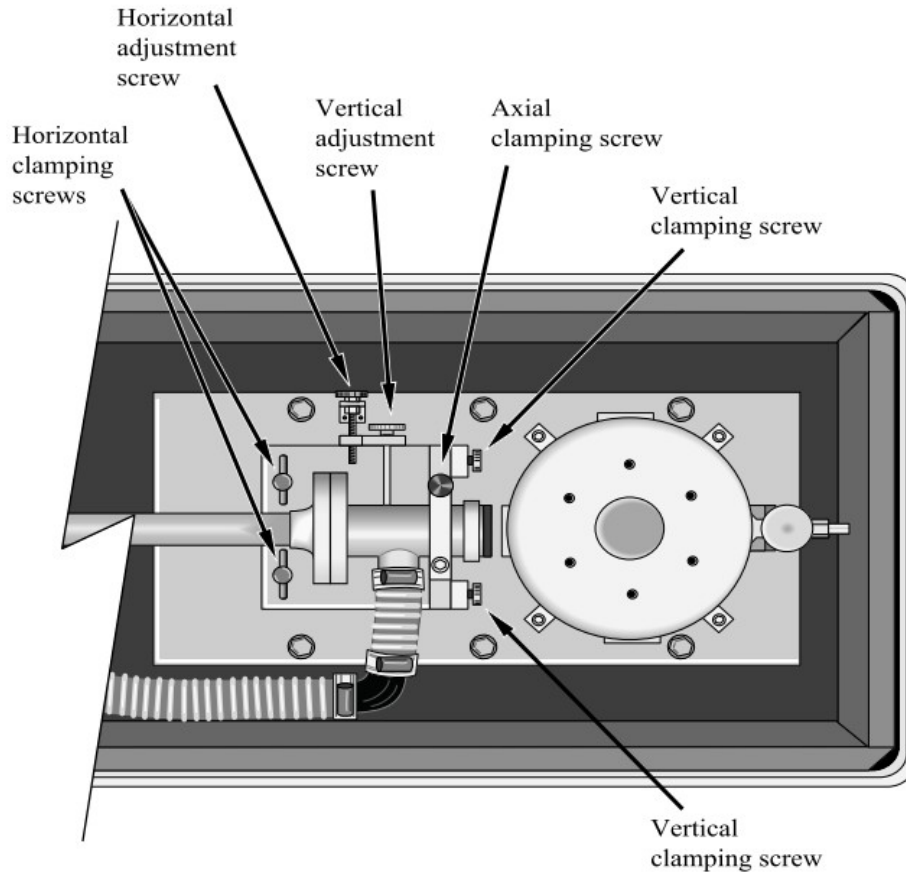

FIGURE B-3. Alignment hardware of laser end of TGA100 and TGA100A
2. Loosen the horizontal and vertical clamping screws at the laser end (refer to FIGURE B-3).
1. Adjust the horizontal alignment screw (see FIGURE B-3) to maximize the sample detector signal.
2. Adjust the vertical alignment screw (see FIGURE B-3) to maximize the sample detector signal, in the same way as for the horizontal alignment.